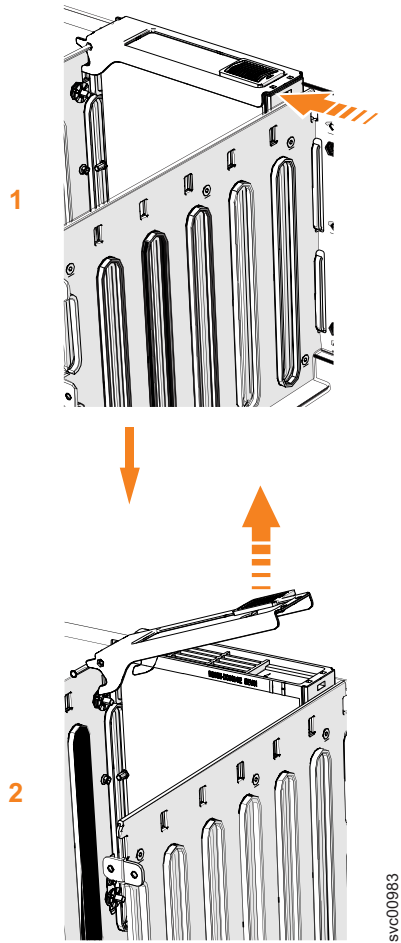

Figure 90. Remove the drive assembly
5. Slide the release latch forward (**1**), as shown in Figure 90 on page 110.
6. Lift the handle (**2**) to unlock the drive carrier from the partition, as shown in Figure 90. Ensure the toe on the bottom of the latch is fully disengaged.